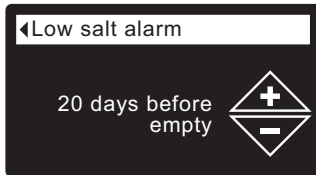

FIG. 93
5. Press the SELECT (O) button to display the Low salt alarm screen (See Figure 93).